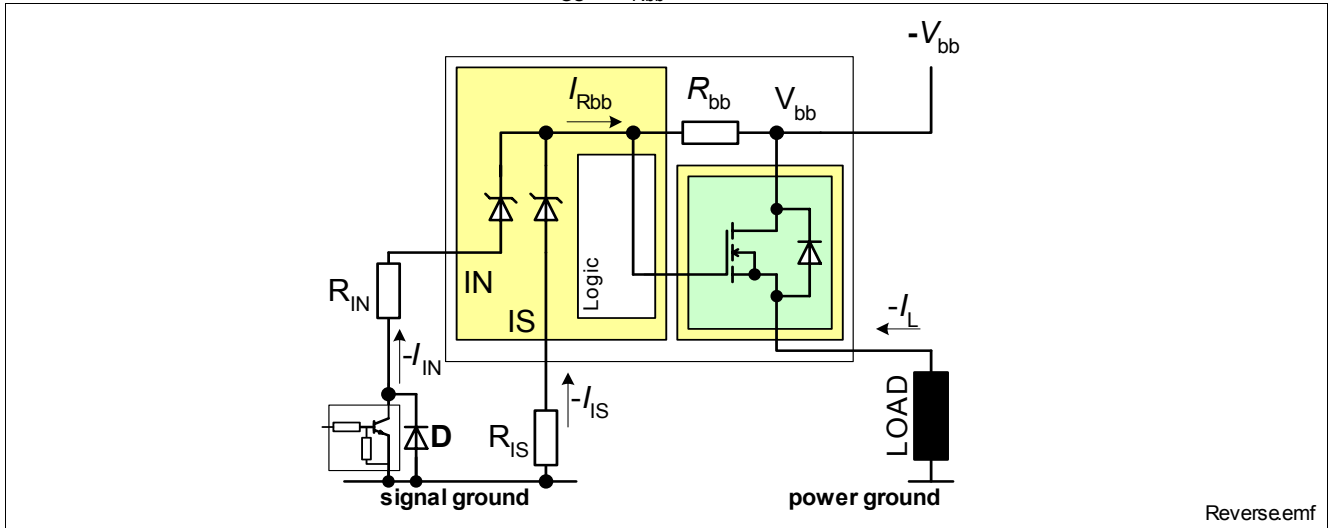

Figure 14 Reverse battery protection
4) Slew rate limitation can be achieved by means of using a series resistor for the small signal driver or in series in the input path. A series resistor R_{IN} in the input path is also required for reverse operation at $V_{bb} \leq -16\text{V}$. See also Figure 14.
The device can not block a current flow in reverse polarity condition. In order to minimize power dissipation, the device offers Reversave™ functionality. In reverse polarity condition the channel will be switched on provided a sufficient gate to source voltage is generated $V_{GS} \approx V_{Rbb}$. Please refer to Figure 14 for details.